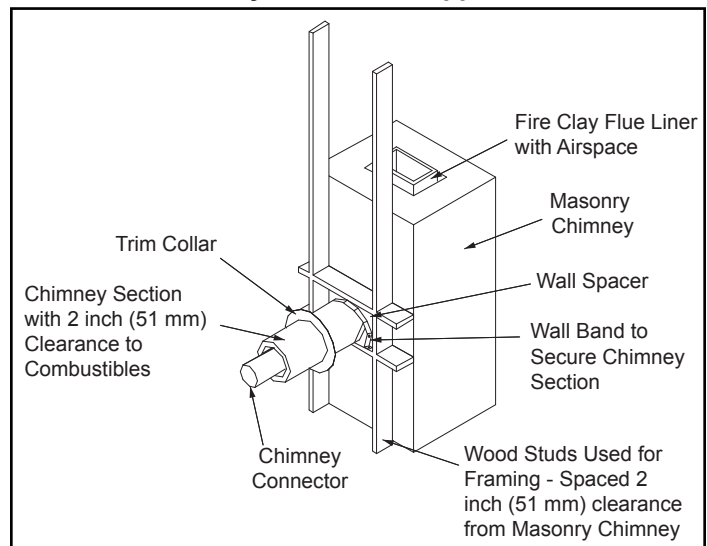

Figure 4.4
3. Construct a 17" x 17" (432 mm x 432 mm) outside dimension frame from 2 x 2 framing lumber to fit into wall opening. Inside opening of frame should be no less than 14" x 14" (356 mm x 356 mm). Figure 4.4. Attach the wall spacer to the chimney side of the frame.